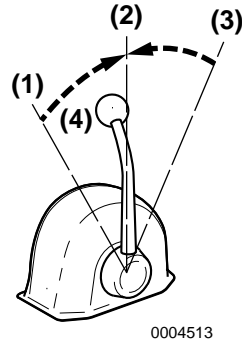

Figure 2
Use the throttle handle (**Figure 2, (4)**) to control acceleration and deceleration. Move the handle slowly.
2. **NOTICE:** *NEVER shift the marine gear at high engine speed. During normal operation, the marine gear should only be shifted with the engine at idle.* When moving the handle between FORWARD (**Figure 2, (1 or 3)**) and REVERSE (**Figure 2, (3 or 1)**), bring the clutch to NEUTRAL (**Figure 2, (2)**) and pause before slowly shifting to the desired position. NEVER shift abruptly from FORWARD to REVERSE or vice versa. **NOTICE:** *When sailing, set the remote control lever in NEUTRAL. Not doing so WILL introduce slippage or any damage and void your warranty.*